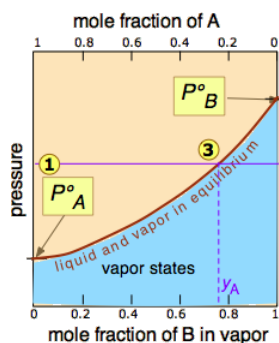

Figure 8.9.2: Liquid-Vapor Equilibrium curve.
In Figure 8.9.2, all states of the system (i.e., combinations of pressure and composition) in which the solution exists solely as a **liquid** are shaded in green. Since liquids are more stable at higher pressures, these states occupy the upper part of the diagram. At any given total vapor pressure such as at ①, the composition of the vapor in equilibrium with the liquid (designated by  $x_A$ ) corresponds to the intercept with the diagonal equilibrium line at ②. The diagonal line is just an expression of the linearity between vapor pressure and composition according to **Raoult's law**.